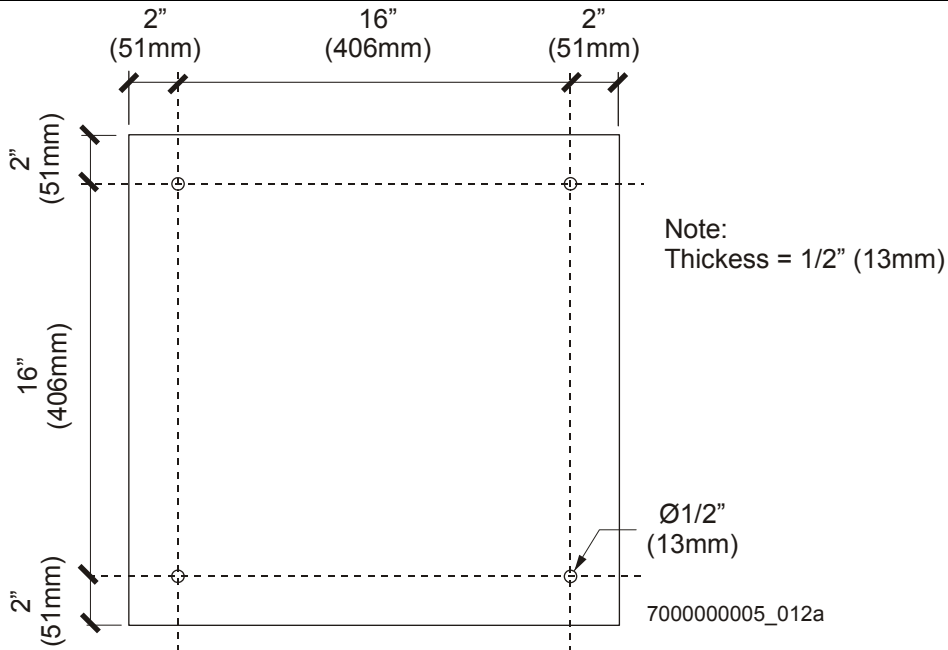

FIGURE 2-4 Typical Superstructure Base Plate
F. Base plate (see FIGURE 2-4)